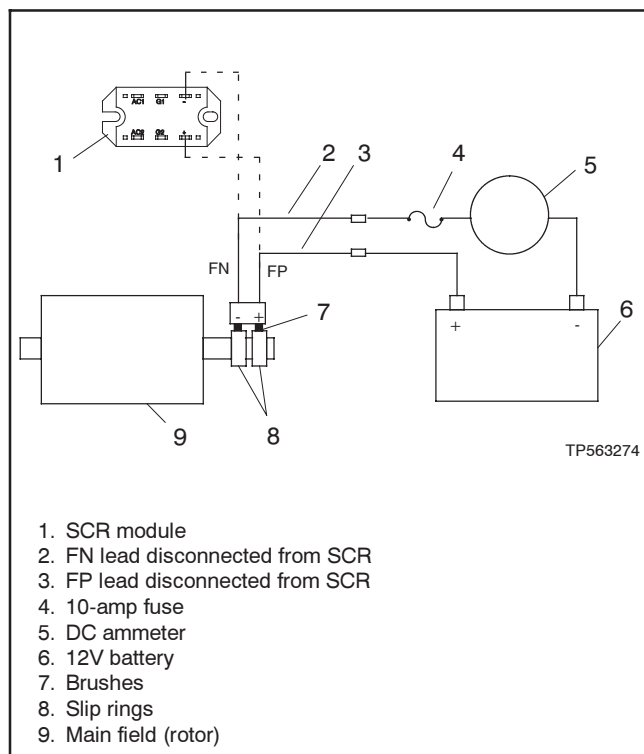

Figure 6-3 Separate Excitation Connections
2. Connect a DC ammeter, 20-amp fuse, and a 12-volt automotive battery to the positive (FP) and negative (FN) brush leads as shown in Figure 6-3. Note and record the ammeter reading.